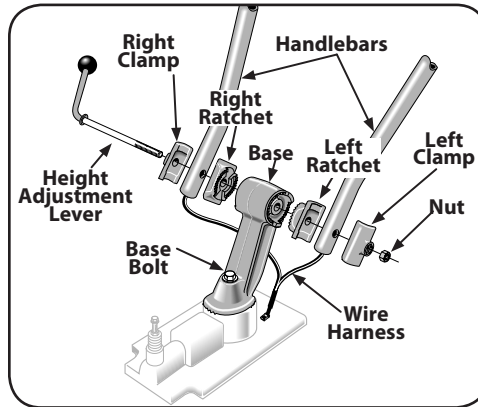

Figure 3-1
1. Disassemble the handlebar assembly. To do this, remove the height adjustment lever by turning the lever in a counterclockwise direction. See Figure 3-1.
2. Place the handlebar ends on either side of the base, with the wire harness toward the rear of the base See Figure 3-1.
3. Install the height adjustment lever through the right-side clamp, handlebar end, ratchet and base; then out through the left-side ratchet, handlebar end and clamp. See Figure 3-1. Secure with the nut, but do not fully tighten.
1. Loosen the bolt on the handlebar base and swing the handlebars out to the right side. See Figure 3-1.